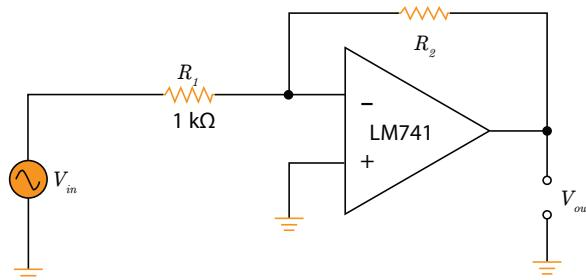

Figure 6.4.1: An inverting amplifier.
5. Derive the equation for the inverting amplifier circuit of Figure 6.4.1 using nodal analysis.
7. Consider the inverting amplifier of Figure 6.4.1. How does it behave when the input resistance R_1 i) is open (removed from circuit and replaced by open circuit) (ii) is short-circuited, (iii) when the feedback resistance R_2 is open and (iv) when the feedback resistance is short-circuited.